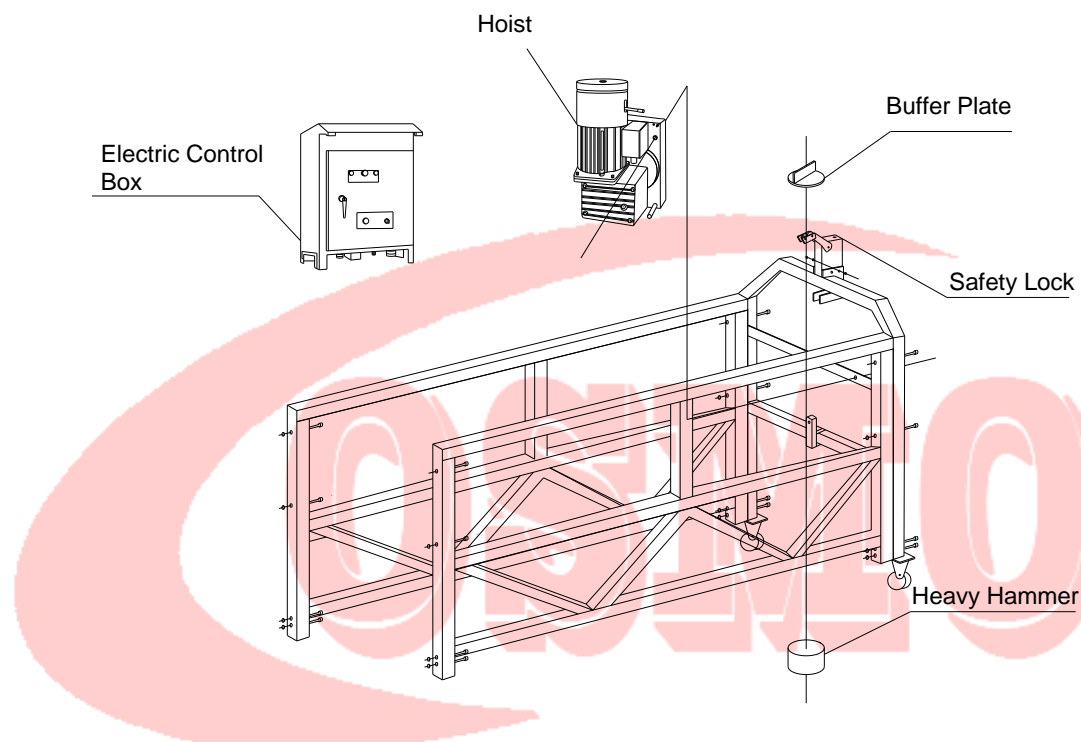

Figure 13 Installation of Hoist & Safety Lock
5.4.1.1 Installation of **LTD** hoist(See Figure 13):We offer following two methods for your option.